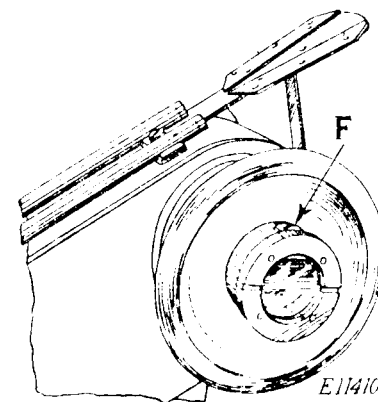

Fig. 4
2. Turn the machine pulley to bring the screw plug (F, Fig. 4) to the top, remove this plug and fill the reservoir practically to the top. THE OIL LEVEL IN THIS RESERVOIR SHOULD NEVER BE ALLOWED TO GO BELOW THE HOLE AT THE CENTER OF THE ARM SHAFT.